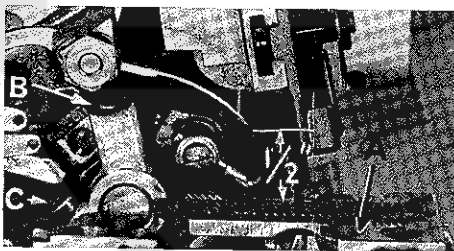

Fig. 3
With throat plate assembled in position, needle should center in the front end of needle slot. When needle is at high position, the needle point should be set 1/2 inch above the throat plate (A, Fig. 3) for Style 39500 JK. For Style 39500 JL the needles points should be 7/16 inch above the throat plate. To align needle or set the height above the throat plate, move needle driving arm (B) by loosening clamp screw (C). After needle has been properly set, tighten clamp screw and remove throat plate.